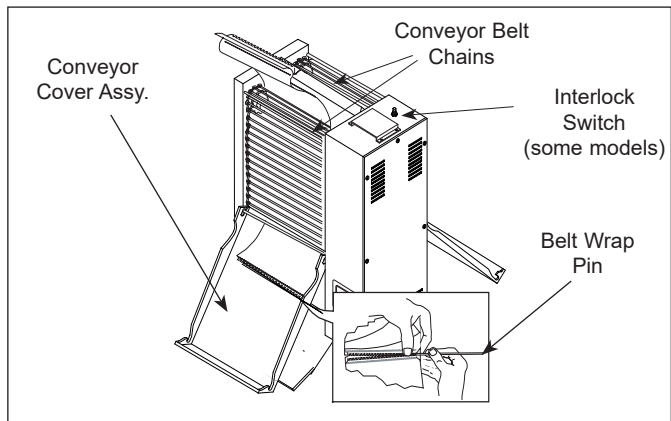

Figure 6. Removing Belt Wrap
3. Open both Conveyor Covers and pull the Belt Wrap Pin out of the zipper (Figure 6).
5. Clean both Conveyor Belt Chains just as you would clean the Belt Wraps during **Daily Cleaning** (Figure 6).